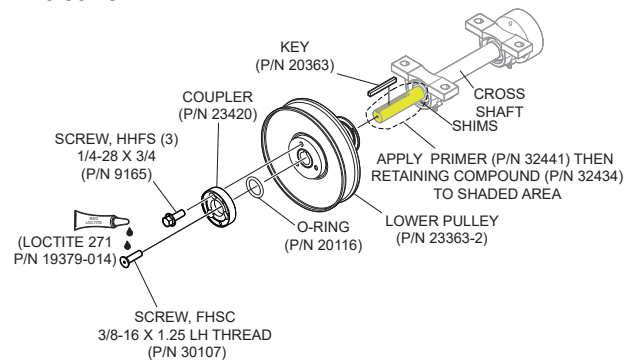

Figure 15. Lower Pulley Installation
Refer to Figure 15.
2. Apply primer (Loctite 7649, P/N 32441) to the cross shaft and key way in the shaded area shown in Figure 15.